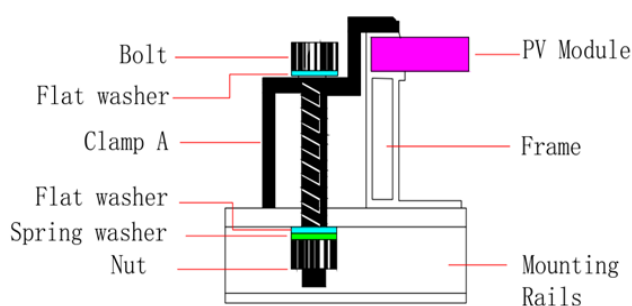

Figure 5
- Clamp material should be anodized aluminum alloy or stainless steel. The mounting details are shown in the following **figure5** and **figure6**.